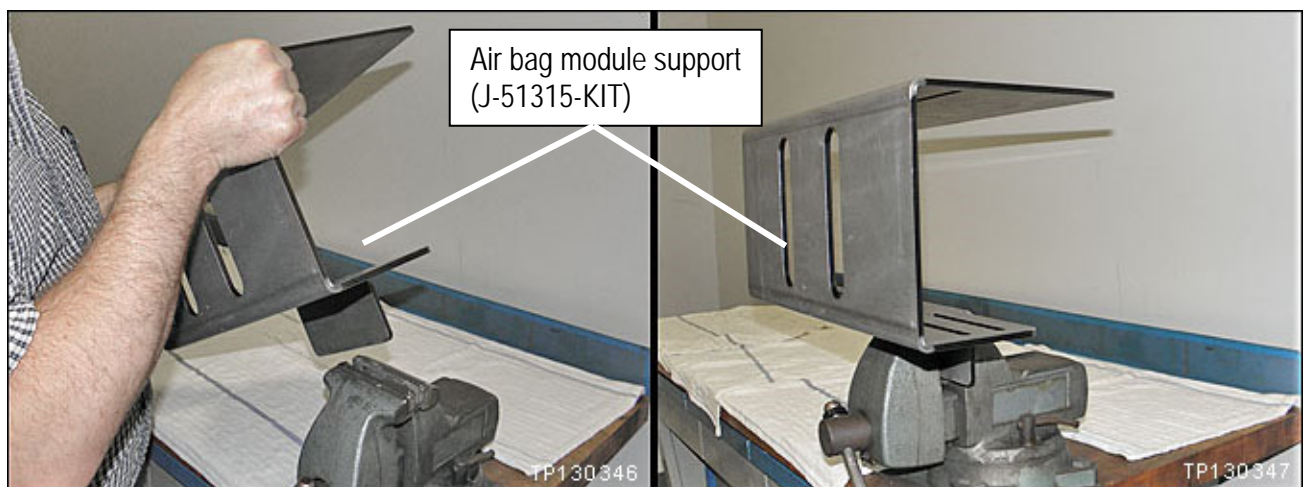

Figure 7
8. Securely mount the air bag module support (support) in a vice (see Figure 7).